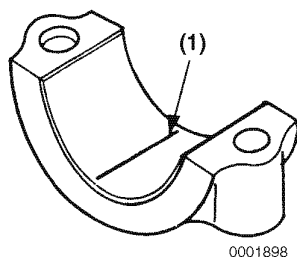

Figure 8-42
- (c) Place a piece of PLASTIGAGE® (**Figure 8-42, (1)**) along the full width of the bearing insert.